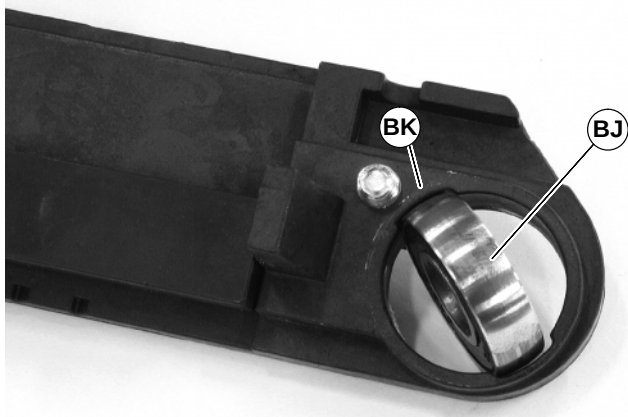

Figure 42
3. Turn bearing (BJ of Figure 42) to align with slots (BK) in head plate. Then remove bearing.